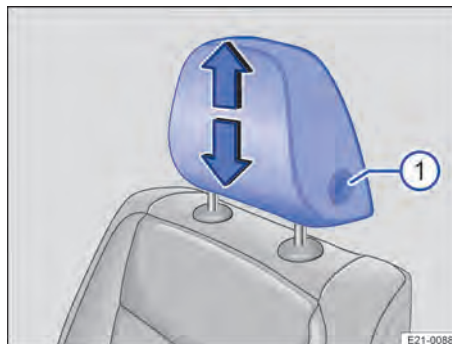

Fig. 71 Front seat: adjusting the head restraint.
1. Push the head restraint up or down while pressing and holding the button → Fig. 71 ⓘ.